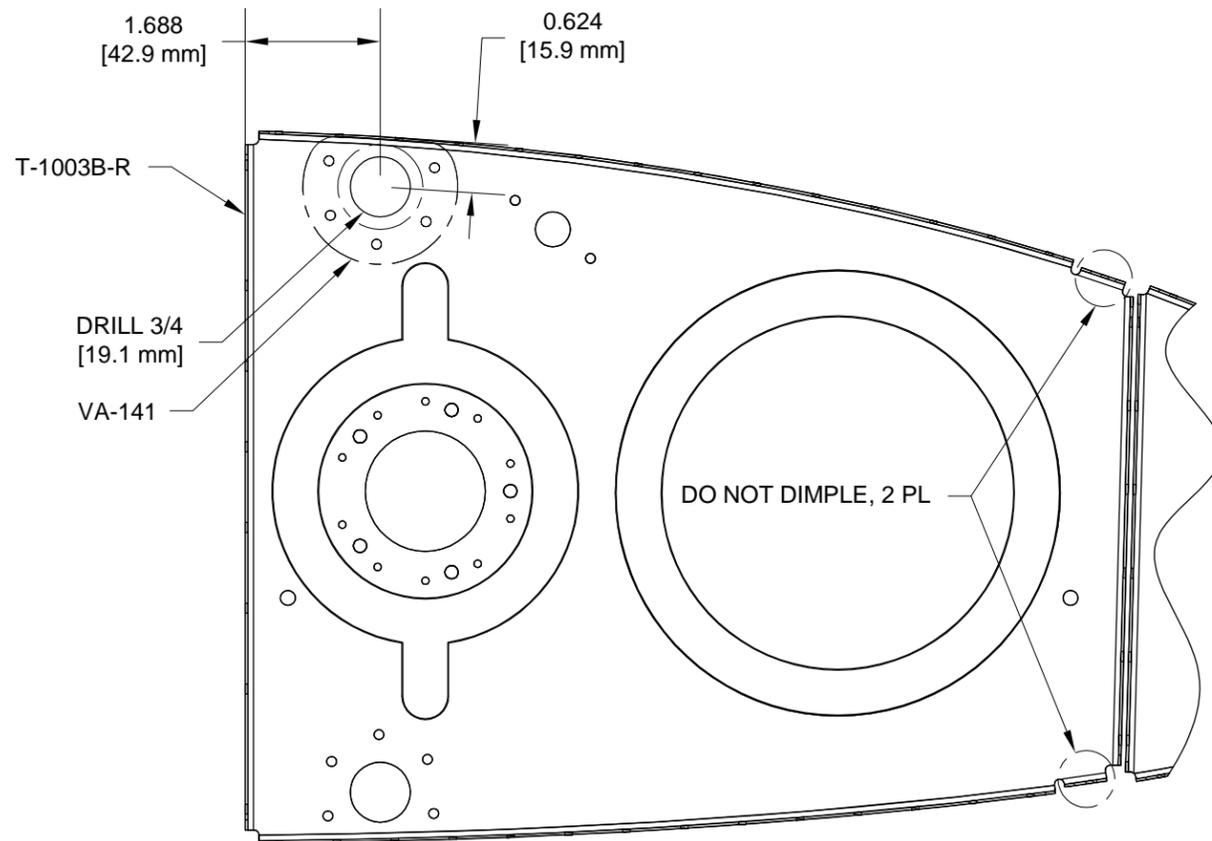

FIGURE 1: UPPER FLANGE PATTERN LOCATION
Step 3: Use a step drill to make a 3/4 [19.05mm] hole in the T-1003B-L & -R Tank Inboard Ribs - Aft as shown in Figure 1. See Section 5.24 for more information on using step drills.
Step 6: Dimple all the #40 holes in the flanges of all ribs used in the tank assemblies except the two small tabs on each T-1003B Tank Inboard Rib - Aft shown in Figure 1. There is limited access to the top flange aft hole in each T-1003C Tank Inboard Rib - Fwd. Therefore a pop rivet dimple tool is needed.